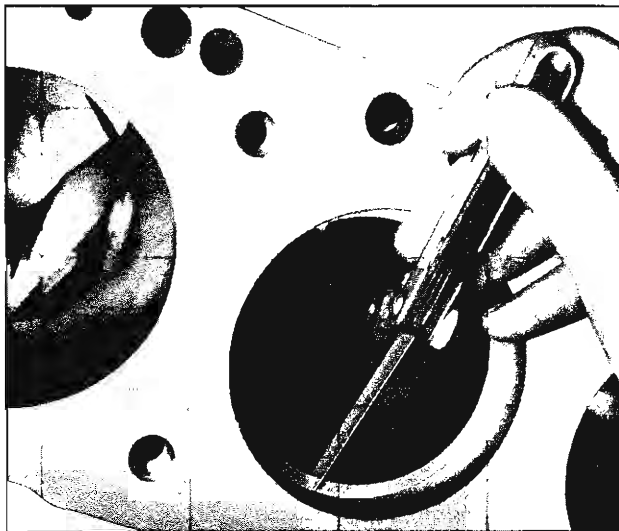

Fig. 57—Checking Ring Gap
3. Check the space or gap between the ends of the ring with a feeler gauge (fig. 57).
12. The compression rings should be fitted so that the clearance is .0012" to .0032" (fig. 57) for new parts and up to .005" allowable wear limit.